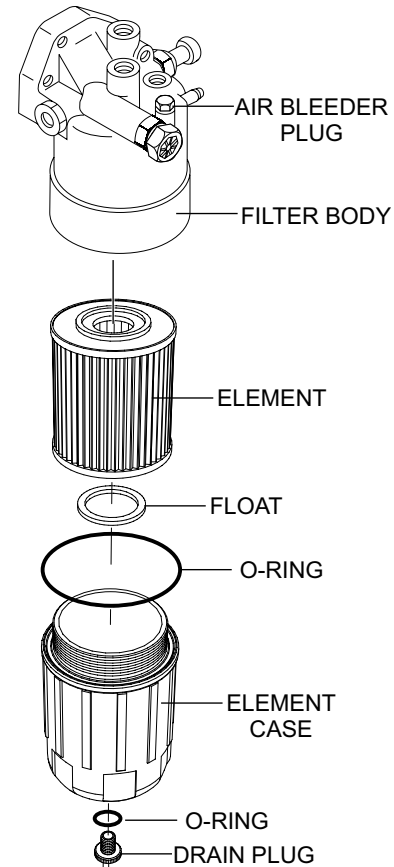

Figure 72. Fuel Filter Replacement
1. Use a filter wrench to remove the element case (Figure 72) from the fuel filter body.